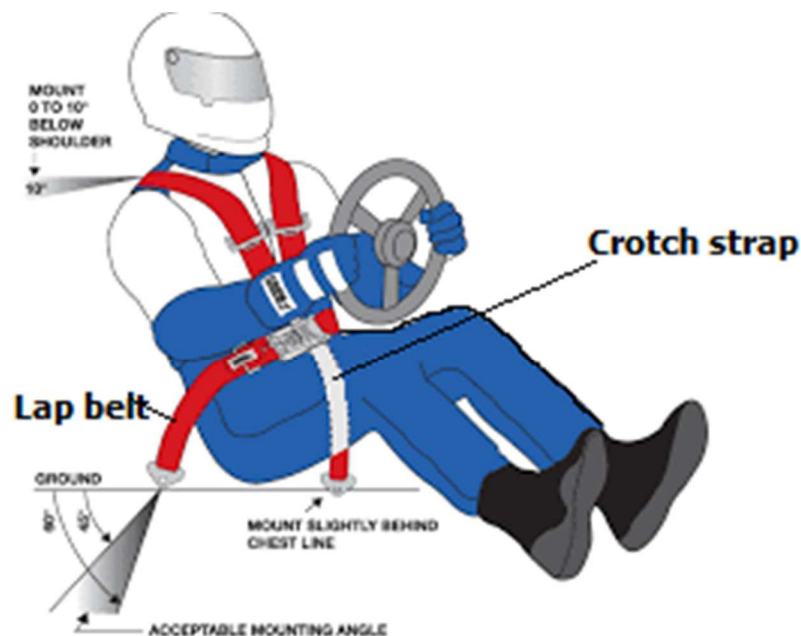

Figure 1
2. To prevent the driver from sliding forward and out of the harness [see Fig. 1]